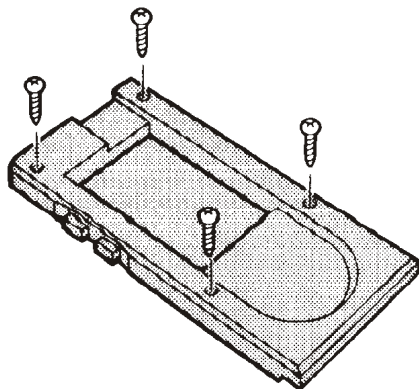

Figure 7
**(a.) Disassembly:** Turn the Hand Controller upside down on a flat surface and hold it firmly. Use a Phillips-head screw driver to remove the 4 screws. Remove bottom screws first. Set all 4 screws aside in a safe place. Refer to Figure 7 below.